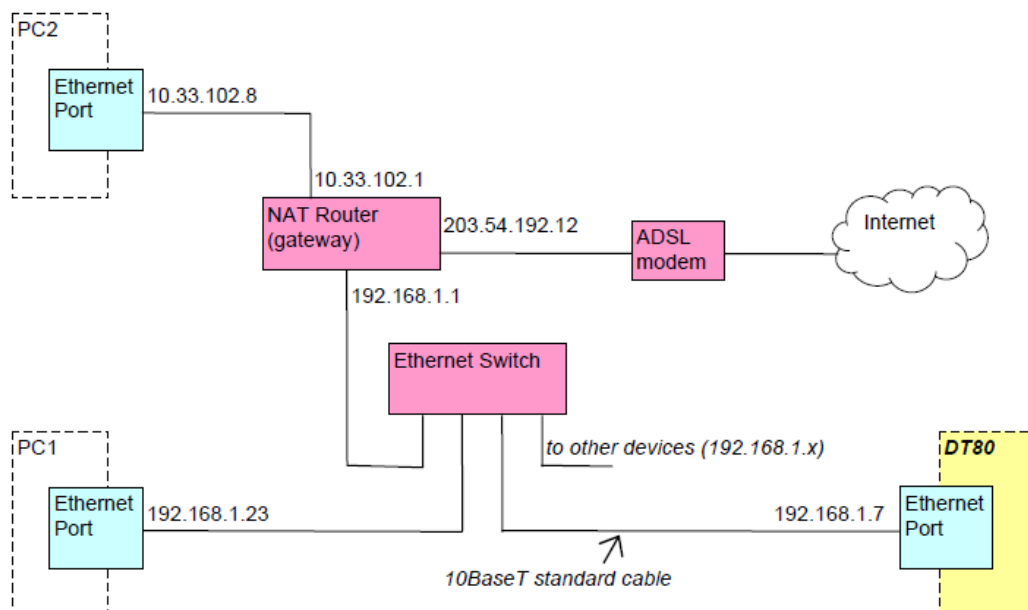
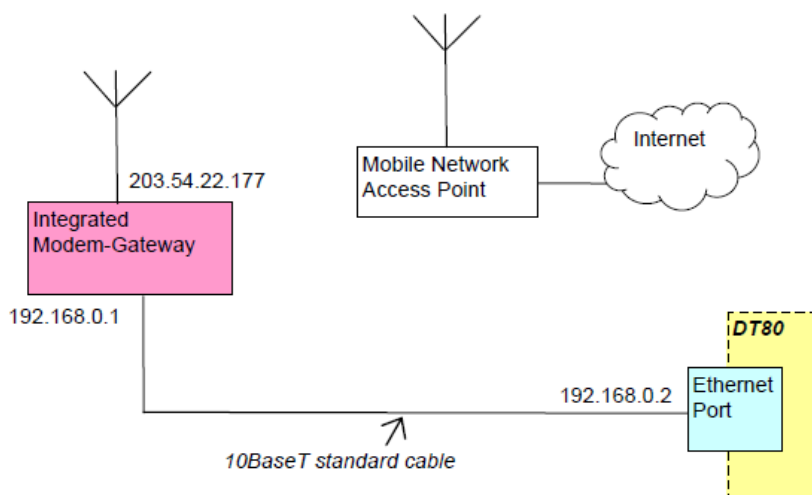

Figure 90: Typical Ethernet LAN
Figure 91: Typical Internet connection using an integrated modem-gateway (wireless modem in this case)
- whether the *DT80* will connect directly to a PC (Figure 89), or connect to an existing LAN (Figure 90), or connect to a modem/gateway (Figure 91)